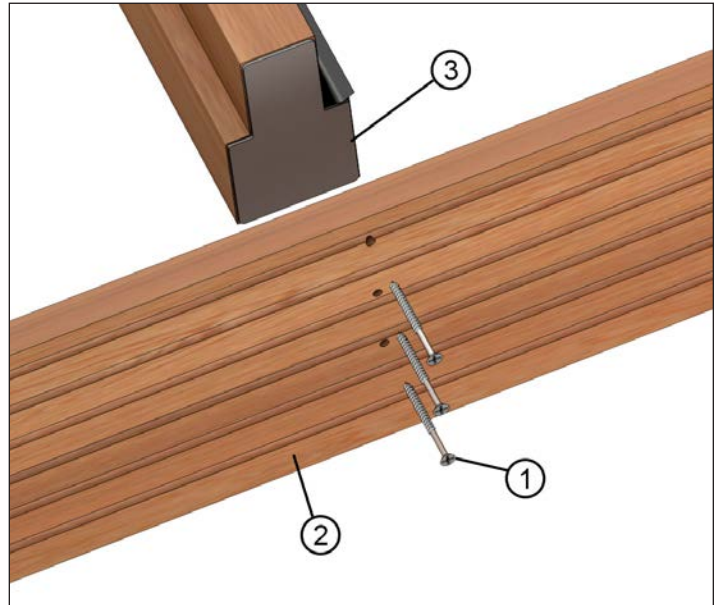

Figure 2
4. Fasten uni-frame to head jamb by applying screws through the top of head jamb and into mull post. See figure 2.